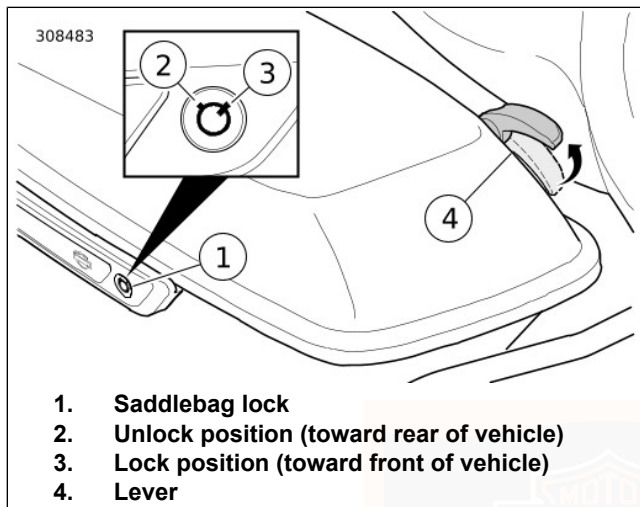

Figure 37. Saddlebag
1. See Figure 37. Unlock saddlebag lock with the key.
1. See Figure 37. Close the saddlebag lid.
1. See Figure 37. Open the saddlebag.